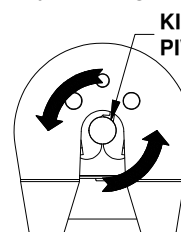
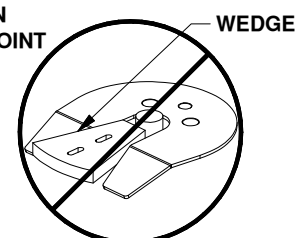

Figure G1:
Figure G2:
- ⚠ WARNING:** Do not use the Slider 5th Wheel Hitch with any device that changes the location of the king pin pivot point. The king pin on your trailer must rotate in the jaws of the Slider Coupler, see Figure G1. Preventing the king pin from rotating within the jaws of the Slider Coupler with a wedge, see Figure G2, or any other device, such as a Reese Sidewinder® or Reese Revolution®, could result in property damage, serious injury or death.